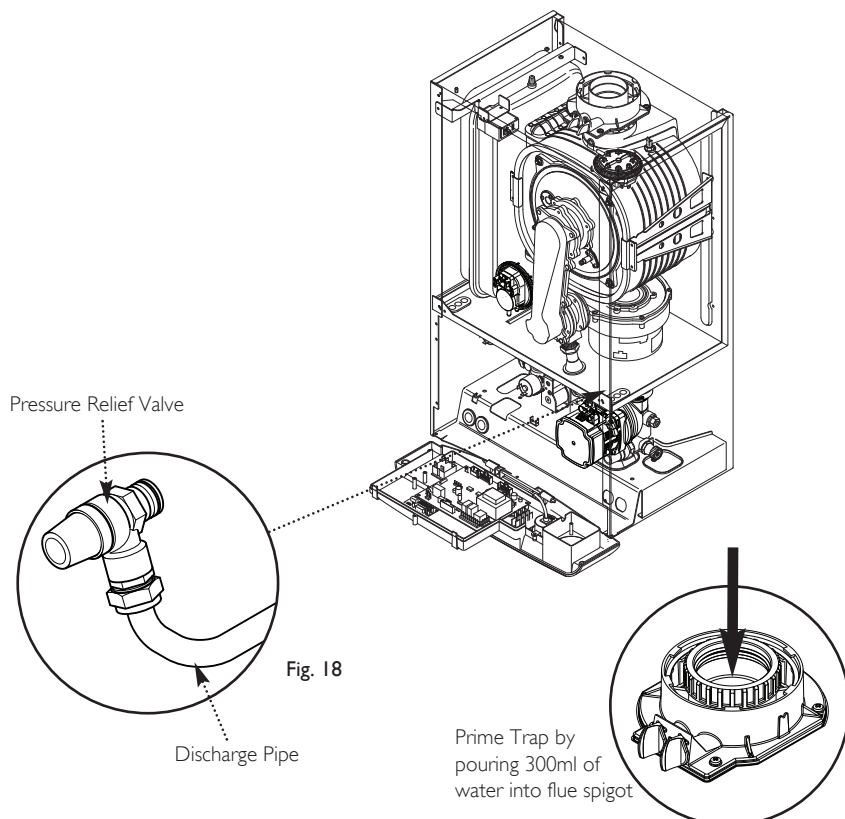

Fig. 18
9.4 Fitting the Safety Pressure Relief Discharge Pipe (Fig. 18)